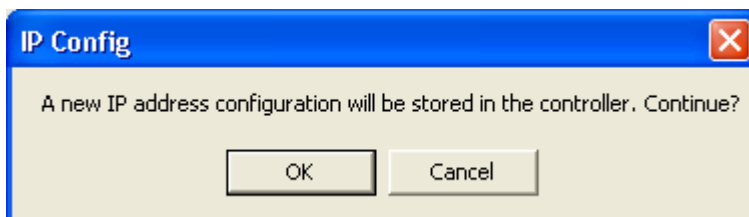

Figure 58. IP Config confirmation dialog window
- Type Primary Ethernet Interface Subnetmask (255.255.252.0) and click **Set IP**. The new address is sent to the PLC and an IP Config window opens, see Figure 58.